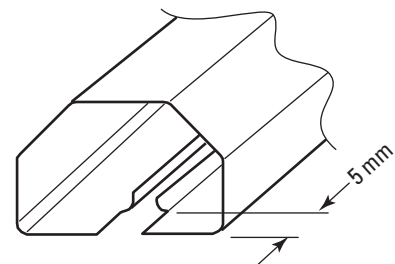

Figure 21.6:
- 6) Remove the internal lips of the lower top rail for 5 mm at both ends. (Fig. 21.6)